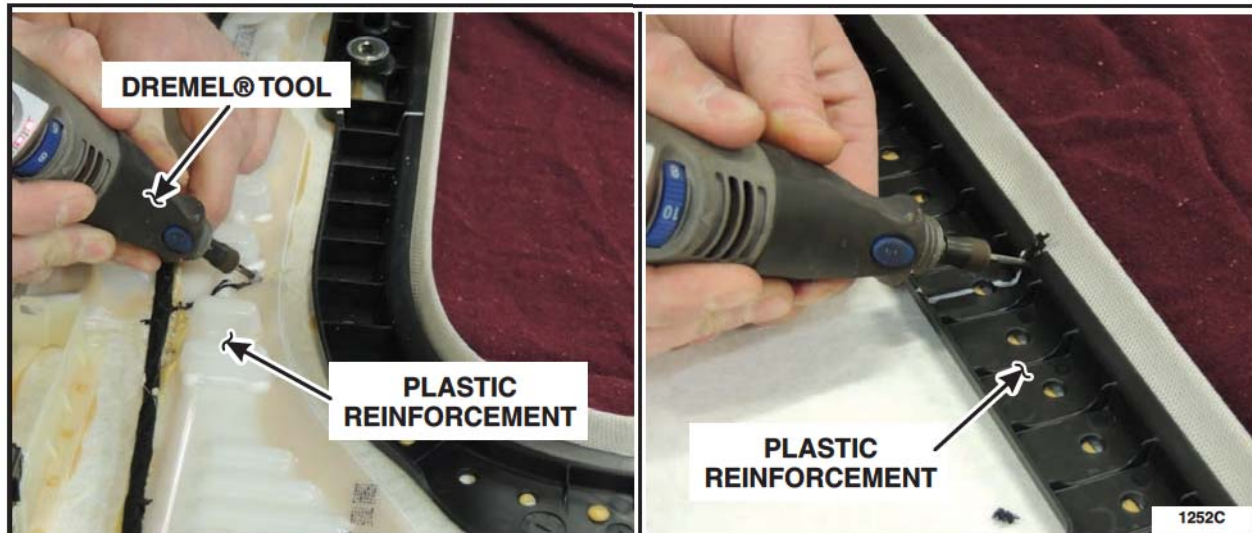

FIGURE 22
2. Using a DREMEL® tool with bit (part # 9903), cut the plastic reinforcements following the previously marked locations. See Figure 22.